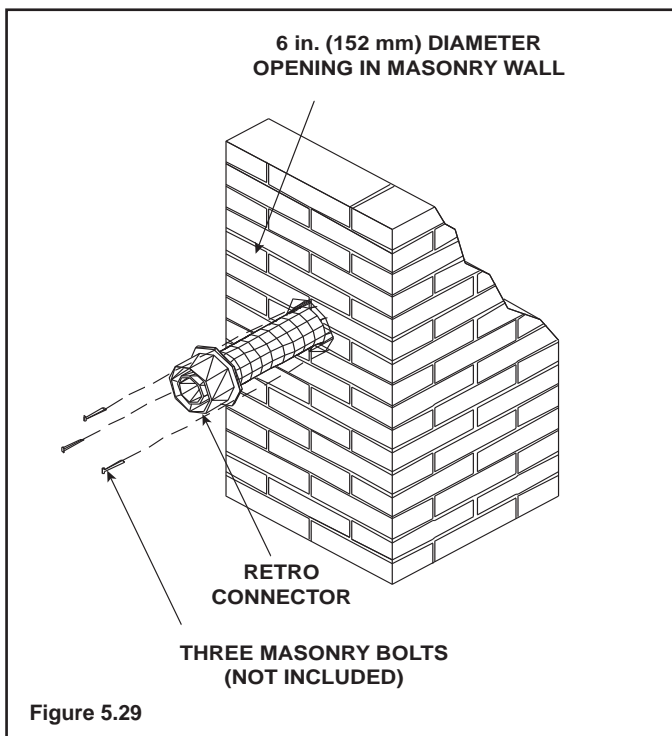

Figure 5.29
9. Attach the flex to the retro connector. Use three sheet metal screws to attach the flex liner to the connector (Figure 5.29). Mount the retro connector to the masonry wall using masonry bolts. Redrill larger holes on connector as needed. Be careful to ensure that the connector is centered in the opening and the mounting holes line up with the masonry wall.